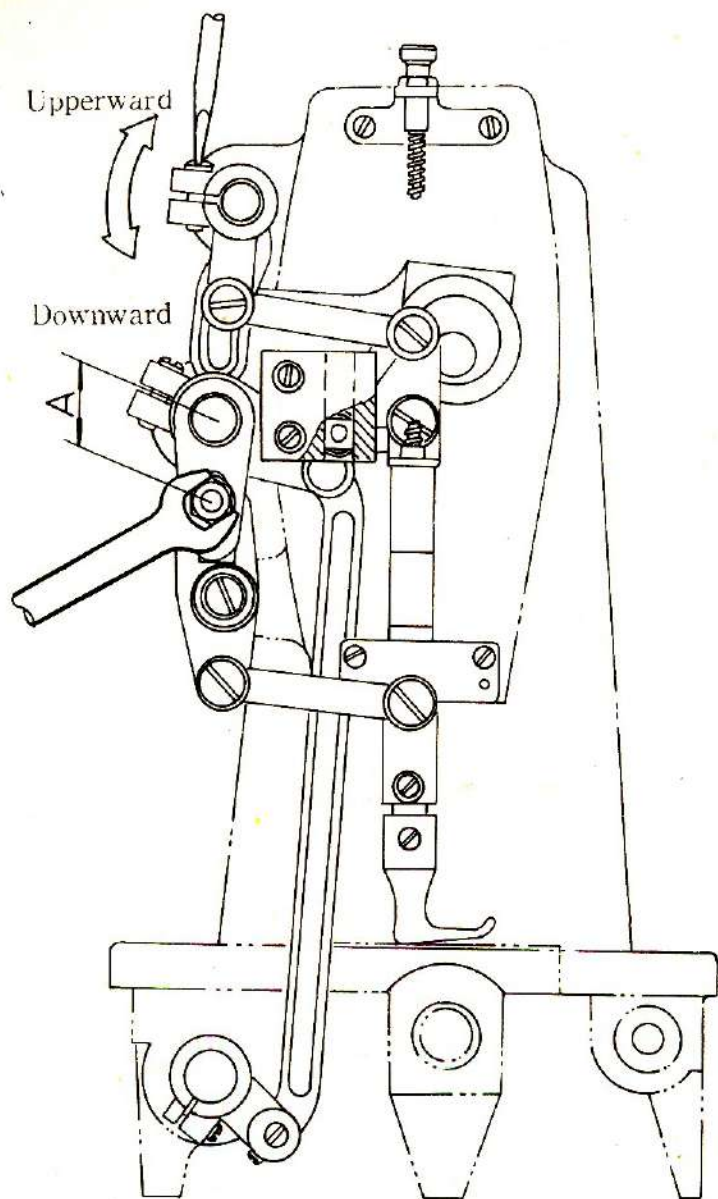

Fig.30
Synchronous upper and lower feeding is one of the important features of machine. The center distance(A) between the adjustable crank and the synchronous slide block stud of the upper feeding mechanism should be adjusted according to the coefficients of friction of different fabrics and sewing processes for diversified requirements. (fig.30)
For adjusting, try to sew a two—layer piece of same fabric of equal length with ordinary stitch length. It means that the upper feeding is less than the lower feeding, if the top layer is found to be longer than the bottom layer, the center distance(A) should be increased by the method as shown in fig. 30. And in the opposite case, the center distance(A) should be decreased.
6. Adjusting the presser foot alternate—lifting mechanism (fig. 30)